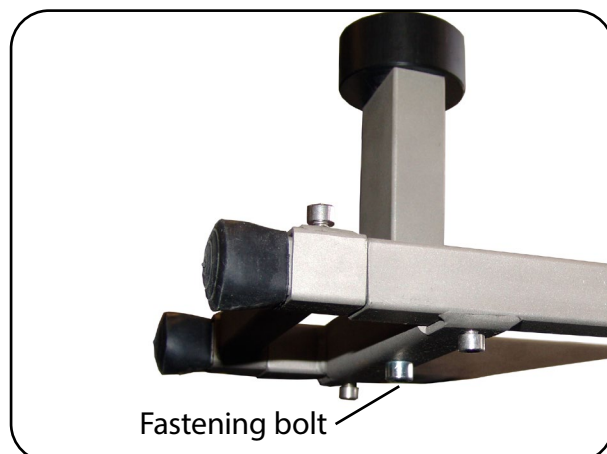

Fig. 6.4.02 – Fastening on the pressure piece holder
- Fasten the raised tub support to the pressure piece holder (Fig. 6.4.02) with the M8 fastening bolt provided.